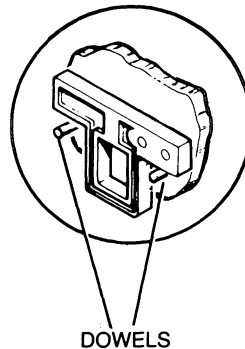

Figure 5.17 Locating Dowels
10. Let the platen back down into the frame, until the platen slides rest on the dowels (see Figure 5.17).